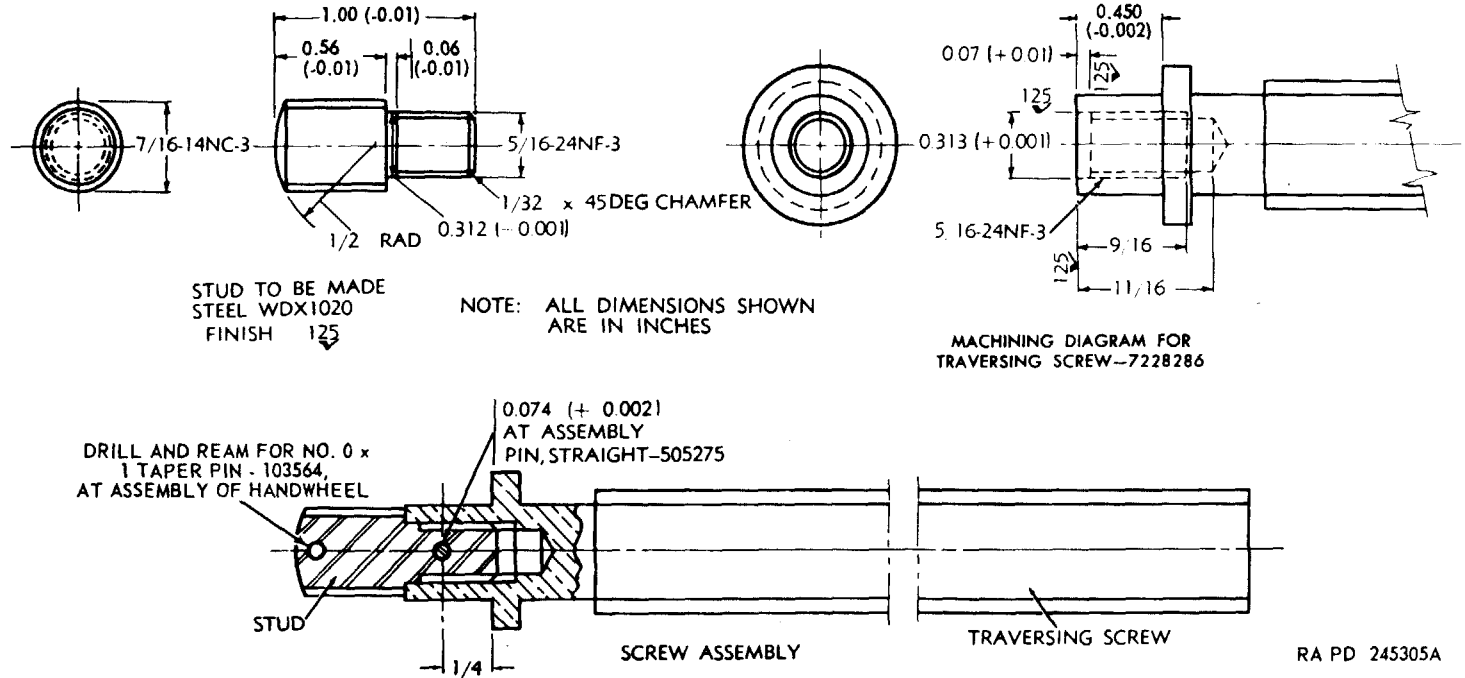

Figure 19. Repair of traversing screw 7228286.
b. Breakage of the traversing screw (fig. 19) near the handwheel can be repaired as outlined in (1) through (3) below.
- (1) Machine broken end, and drill and tap.
- (2) Fabricate stud to given dimensions.
- (3) Assemble stud to screw and secure with straight pin.